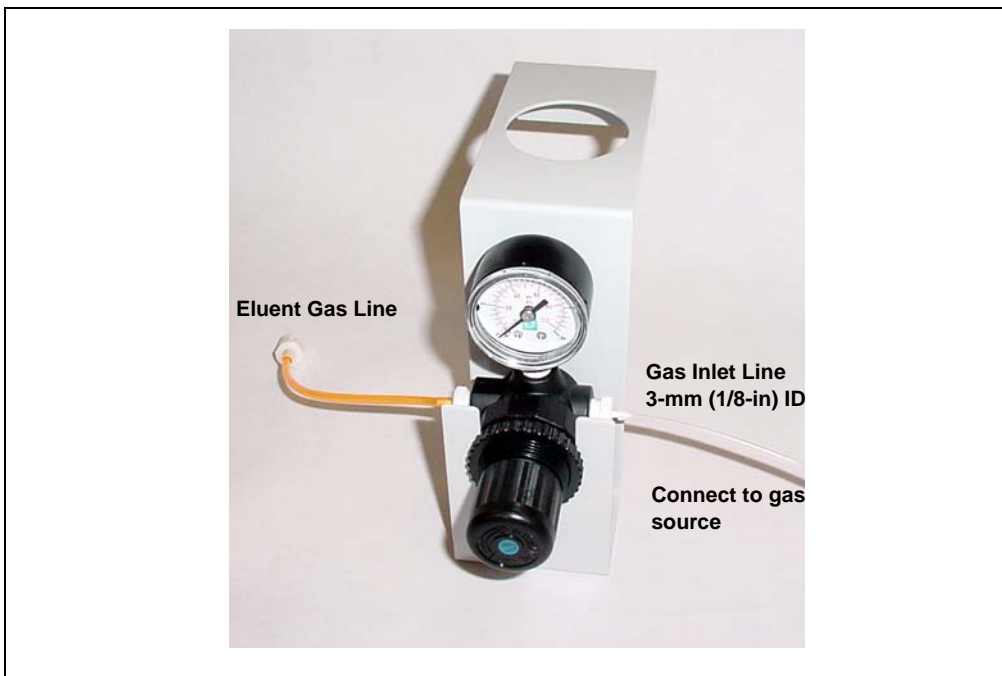

Figure B-15. ICS-90 Air Regulator Accessory
3. Push the other end of the tubing onto the inlet of the air regulator (see Figure B-15).